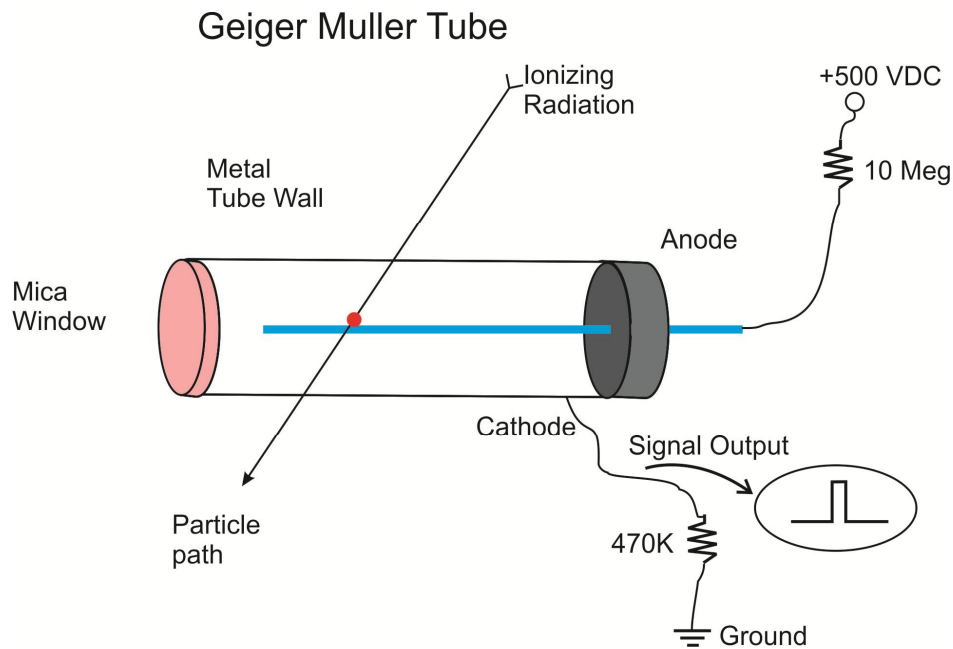

Figure 2
A cut away drawing of a typical Geiger Mueller (GM) tube is shown in figure 2. The wall of the GM tube is a thin metal (cathode) cylinder surrounding a center electrode (anode). The metal wall of the GM tube serves as the cathode of the GM Tube. The front of the tube is a thin Mica window sealed to the metal cylinder. The thin mica window allows the passage and detection of the weak penetrating alpha particles. The GM tube is first evacuated then filled with Neon, Argon plus a Halogen gas.